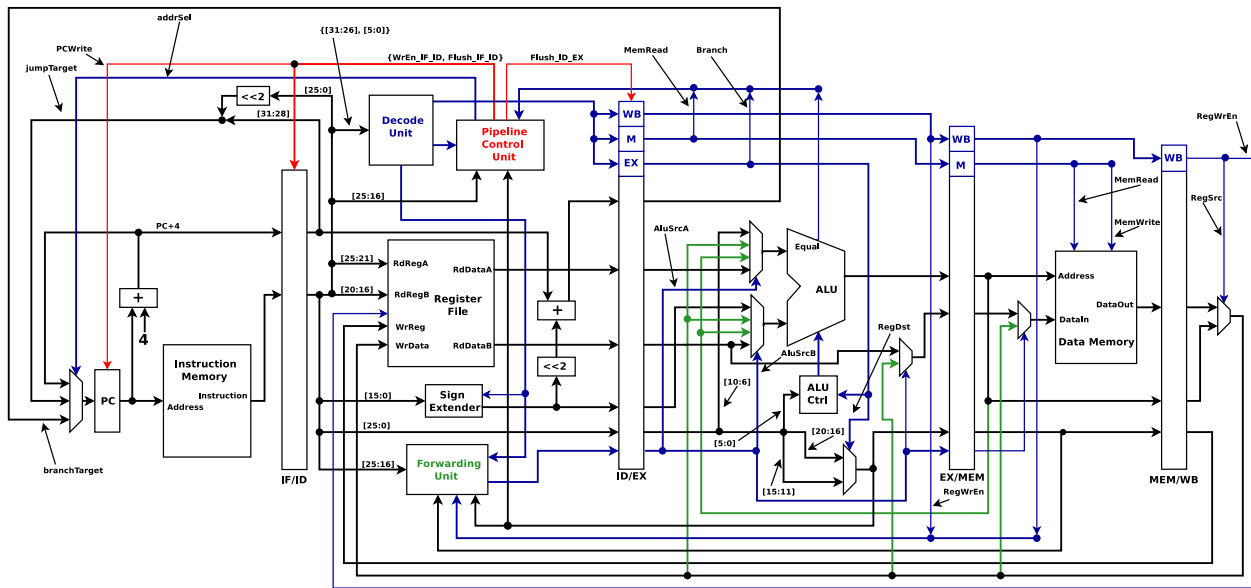

Figure 1: MIPS Block Diagram
The objective of the last lab this semester is to complete our pipelined MIPS processor by creating the top-level VHDL component that will instantiate the individual components built in prior labs and implement the remaining portions of the datapath shown in Figure 1.
Figure 1 shows the block diagram of the 5-stage, pipelined MIPS processor you will complete in this lab. As shown, your processor will use forwarding to resolve data hazards and separate memories to resolve structural hazards. Control hazards will be resolved using a branch delay slot in combination with the *assume-Not-Taken* branching scheme discussed in lecture.
2. Describe the pipelined datapath depicted in Figure 1 using the skeleton code provide below as a starting point. Pay close attention to the signal naming convention described in the comments at the top of the source file. This convention will make it easy to read the flow of data through the processor and avoid signal naming issues as many signals exist in more than one pipeline stage.